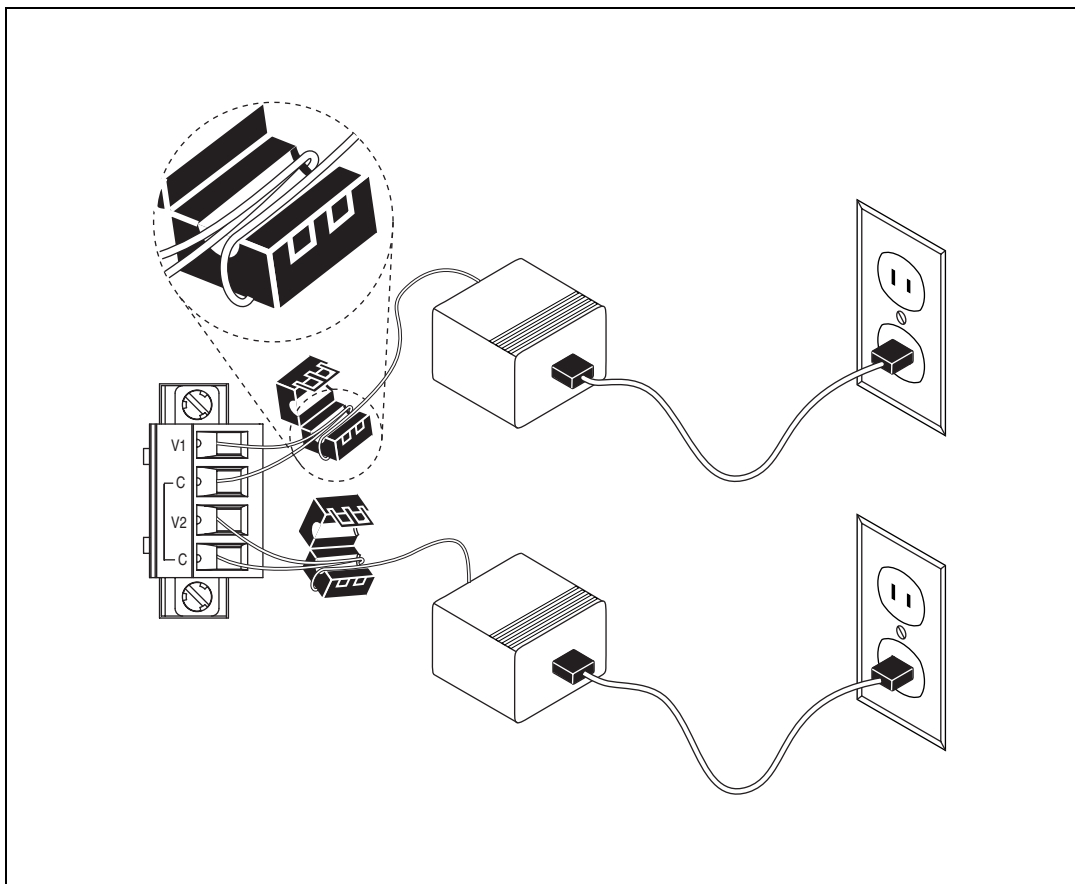

Figure 4. Wiring Power to the cRIO-9052
1. Install a ferrite around the negative and positive wires for both the V1 and V2 terminals by wrapping both wires around one side of the ferrite one time. Refer to Figure 4 for an illustration of this step.